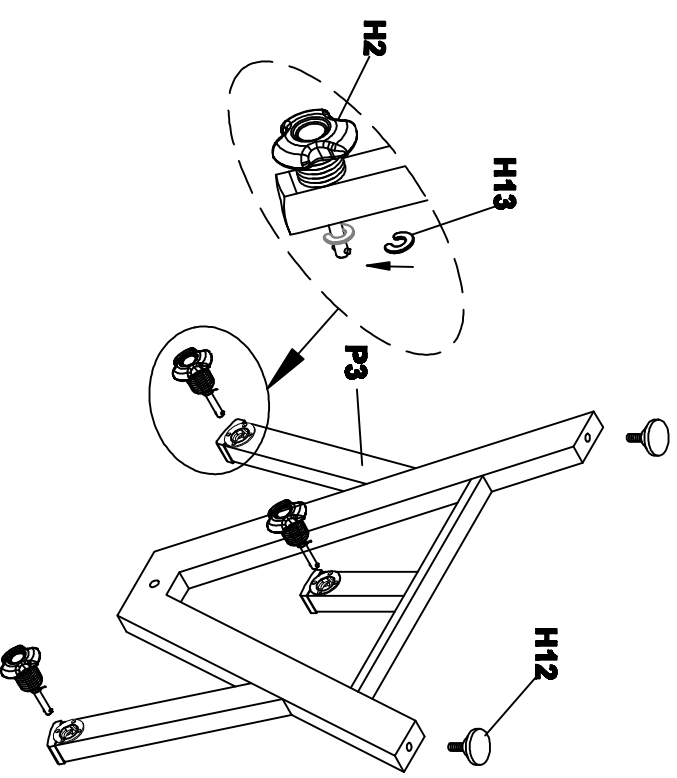

FIGURE 3
4. Push the lock knobs H2 through the holes in the leg assembly. Once the lock knob is through,attach one lock collar H13 to each knob as shown; Attach the leg levers H12 to the leg assembly P3 as shown in FIGURE 3.